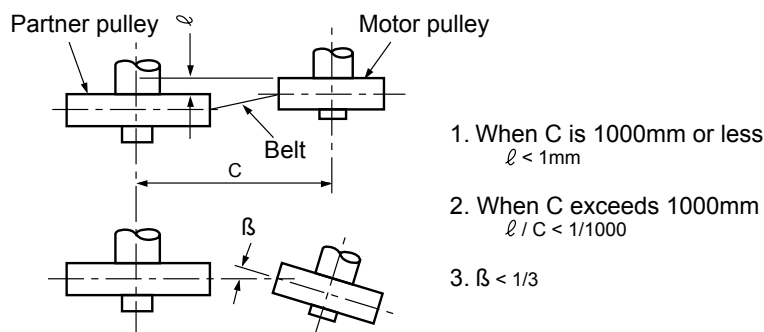

Figure 9.5 V-belt adjust method
(A) The load points (pulley center) for the motor belt are shown in Table 9.1. Adjust the motor pulley and driven pulley positions as shown in Figure 9.5. The shaft, bearings and belts could all be damaged if the belt or pulleys are inclined.